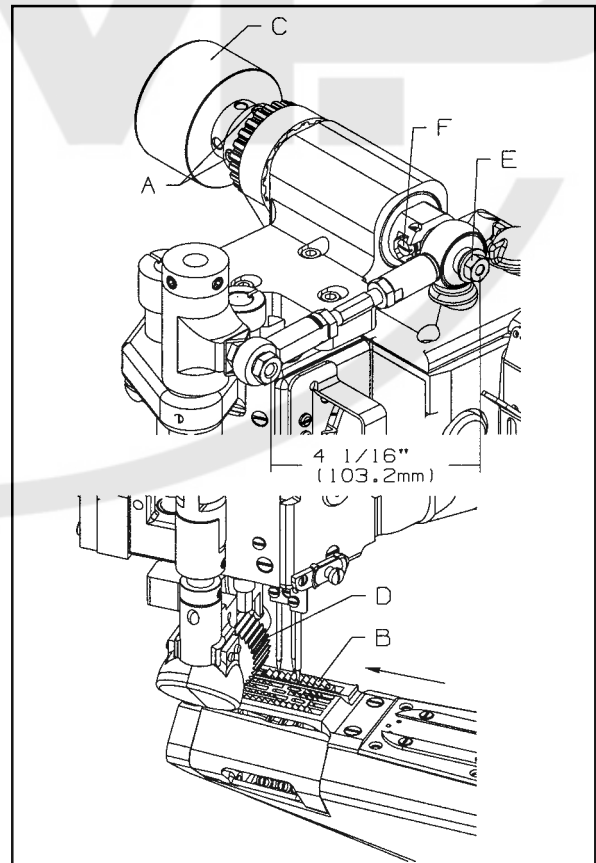

FIG. 24
Loosen two screws (A, Fig. 24) in upper sprocket, rotate machine in operating direction, with needle moving up until needle points are flush with top of throat plate (B). At this point, feed dogs are above throat plate but have not made any movement towards the rear. Rotate puller shaft (C) in operating direction until puller (D) shows some movement clockwise. At this time tighten two screws (A) in upper sprocket.
Loosen nut (E, Fig. 24) and turn screw (F) clockwise to shorten puller travel or counterclockwise to lengthen puller travel. Tighten nut (E). Sewing sample should be checked to assure that proper stitch length is obtained.